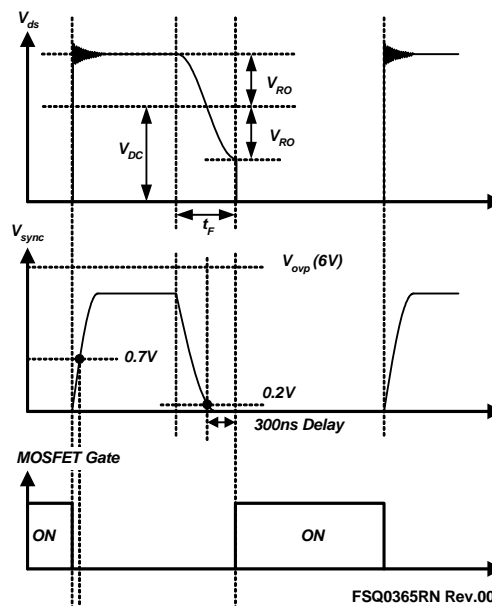

Figure 22. Quasi-Resonant Switching Waveforms
3. Synchronization: The FSQ-series employs a quasi-resonant switching technique to minimize the switching noise and loss. The basic waveforms of the quasi-resonant converter are shown in Figure 22. To minimize the MOSFET's switching loss, the MOSFET should be turned on when the drain voltage reaches its minimum value, as shown in Figure 22. The minimum drain voltage is indirectly detected by monitoring the V_{CC} winding voltage, as shown in Figure 22.